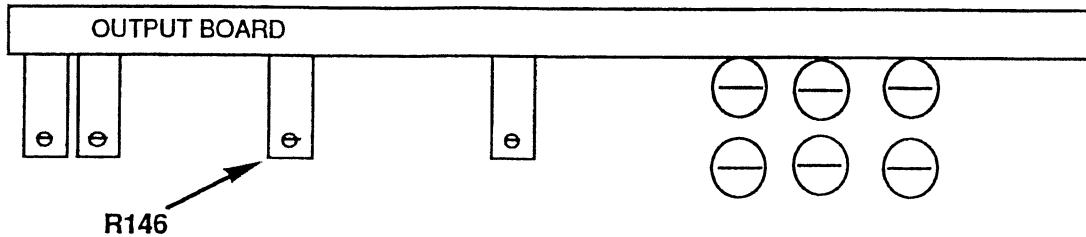

Figure 4-10. R146 Locator
2. Slide the cover back, and adjust the Output board's R146 (see figure 4-10) until the DVM reads 0Vdc \pm 2mVdc of triangle offset. Slide the cover back on.